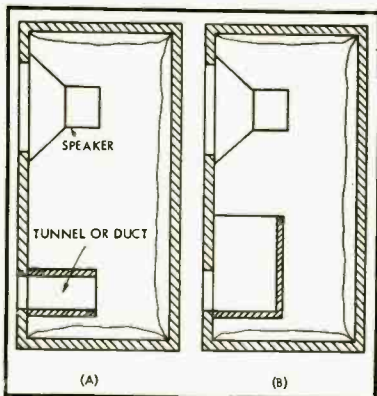

Fig. 13. Cross section of reflex cabinets. (B) shows how the tunnel may be folded.
- (1) It is convenient to have the duct extending into the enclosure (Fig. 13), so the volume of the duct must be added to the volume of the enclosure; consequently if the duct length is increased a point will be reached when the decrease in the required cavity volume is being equalled or even exceeded by the increase in the volume of the duct. The optimum duct length for a minimum volume occurs when the length of the duct $l = \frac{2160}{f} - 1.7R$ where both dimensions are in inches.